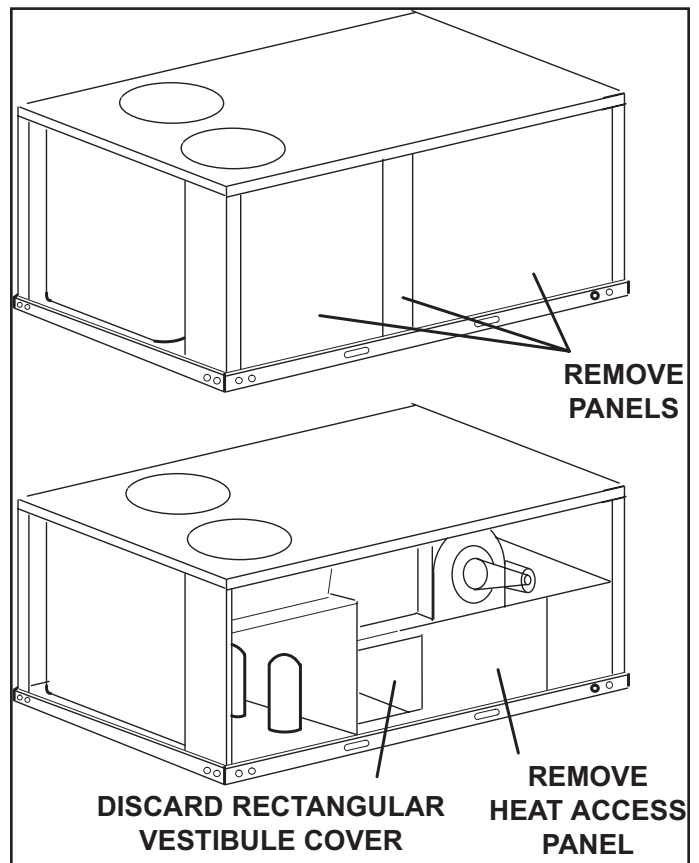

FIGURE 1
- 2 - Remove all panels from front of unit. See FIGURE 1.